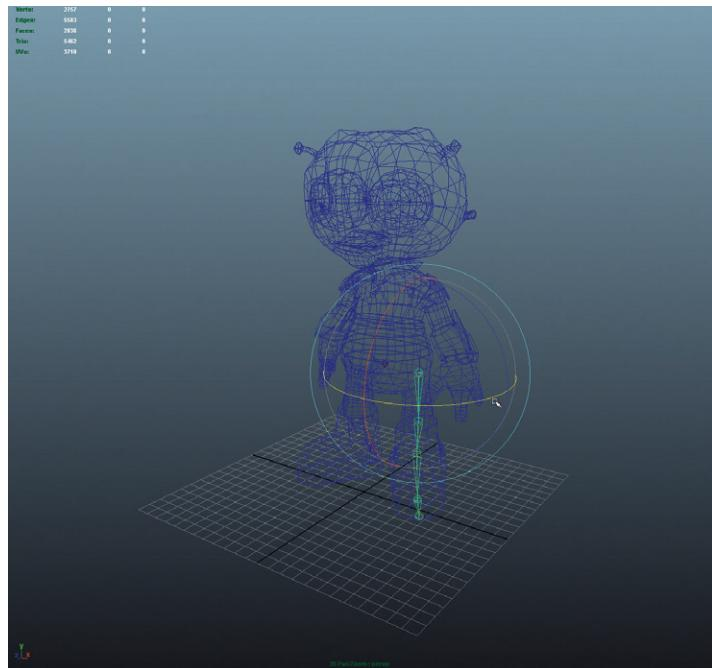

FIG 8.6 Rotating the leg appropriately.
Step 7: Rotate the leg joints. First, select L_Hip if it is not selected. Then we want to make a few changes to how the Rotate Tool works: double-click the Rotate Tool, and the Tool Settings window will appear (probably to the left of the interface). Here, under the Rotate Settings area, change the Rotate Mode to World. This will change the rotation handle, so that it is flat in world space instead of rotated as the joint was. Now, rotate the L_Hip joint along the Y axis (grab only the green circle of the handle) and rotate the chain, so that it is set within the leg. This is most easily done from the persp View Panel (Fig. 8.6).